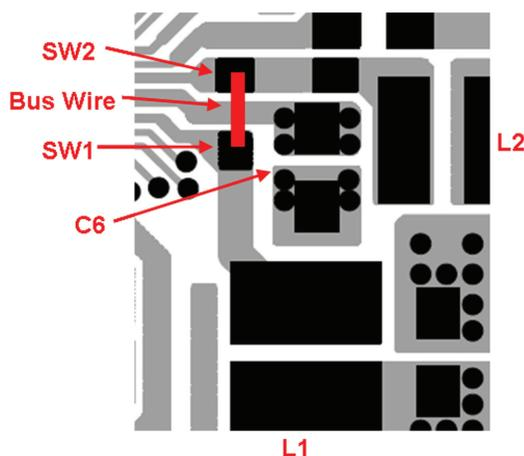

Figure 8. Buck1 and Buck2 Combined Setup
4. Short SW1 to SW2 with a solid 24 AWG or larger bus wire on the exposed pads near C6 as shown in Figure 8.